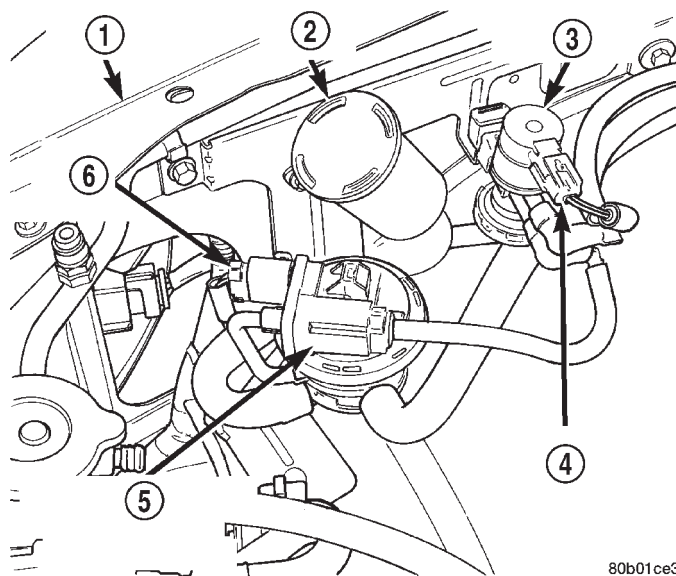

Fig. 2 Duty Cycle EVAP Canister Purge Solenoid Location
The duty cycle solenoid is attached to a bracket mounted to the right inner fender (Fig. 2).
(1) Disconnect electrical wiring connector at solenoid (Fig. 2).
The LDP and LDP filter are attached to a bracket mounted to the right-inner fender (Fig. 2). The LDP and LDP filter are replaced (serviced) as one unit.
- (1) Carefully remove hose at LDP filter.
- (2) Remove LDP filter mounting bolt and remove from vehicle.
- (3) Carefully remove vapor/vacuum lines at LDP.
- (4) Disconnect electrical connector at LDP (Fig. 2).
- (5) Remove LDP mounting screws and remove LDP from vehicle.